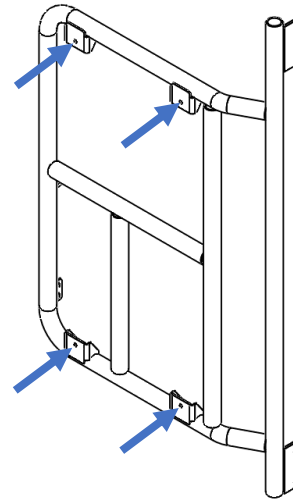

Figure 2: Mounting Holes on the Bike Rack for the Bike Trays
4. Install the bike rack trays onto the rack using the two (2) remaining carriage bolts through the indicated holes on the bike rack (see Figure 2). Tighten with the 3/8" washer and nuts.